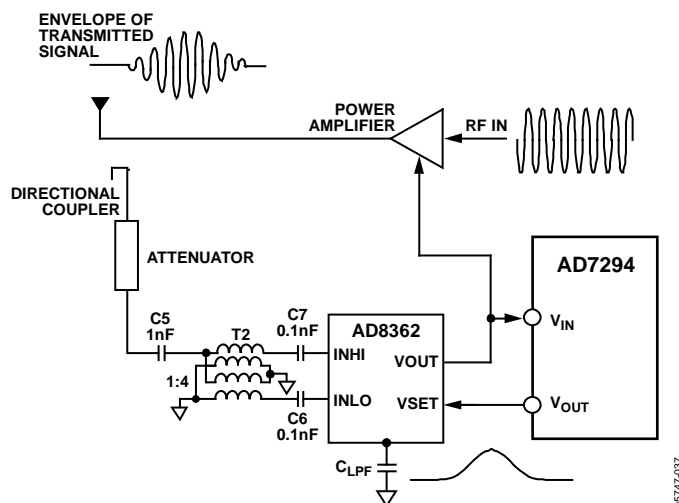

Figure 60. Setpoint Controller Operation
In gain control mode, a setpoint voltage, proportional in dB to the desired output power, is applied to a power detector such as the AD8362. A sample of the output power from the power amplifier (PA), through a directional coupler and attenuator (or by other means), is fed to the input of the AD8362. The VOUT is connected to the gain control terminal of the PA, see Figure 60. Based on the defined relationship between VOUT and the RF input signal, the AD8362 adjusts the voltage on VOUT (VOUT is now an error amplifier output) until the level at the RF input corresponds to the applied VSET. The AD7294 completes a